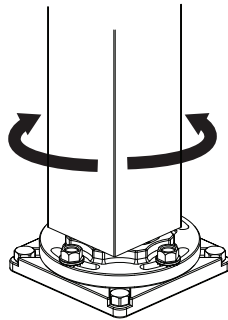

Figure 12
9. Before tightening the screws, rotate the tub filler body to the preferred position for the spout as shown in Figure 12.